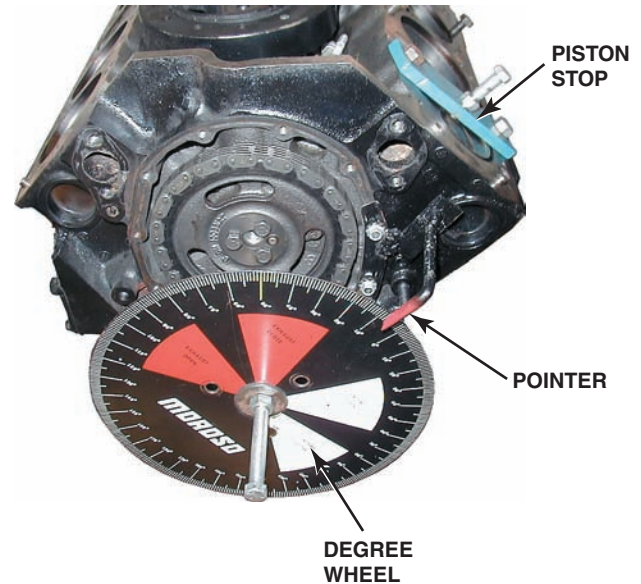

FIGURE 33-13 Note the setup required to degree a camshaft. The pointer, the degree wheel, and the piston stop are used to find exact top dead center.
STEP 2 After finding exact TDC (28 degrees in this case), remove the piston stop, then rotate the engine until the degree wheel indicates 28 degrees. Now adjust the degree wheel to read exactly TDC. Place a dial indicator on an intake valve lifter. To accurately locate the point of maximum lift (intake lobe centerline), rotate the engine until the lifter drops 0.05 inch on each side of the maximum lift point. Mark the degree wheel at these points on either side of the maximum lift point. Now count the degrees between these two points and mark the halfway point. This halfway point represents the intake centerline. This point is often located between 100 and 110 degrees. ● **SEE FIGURE 33-13.**